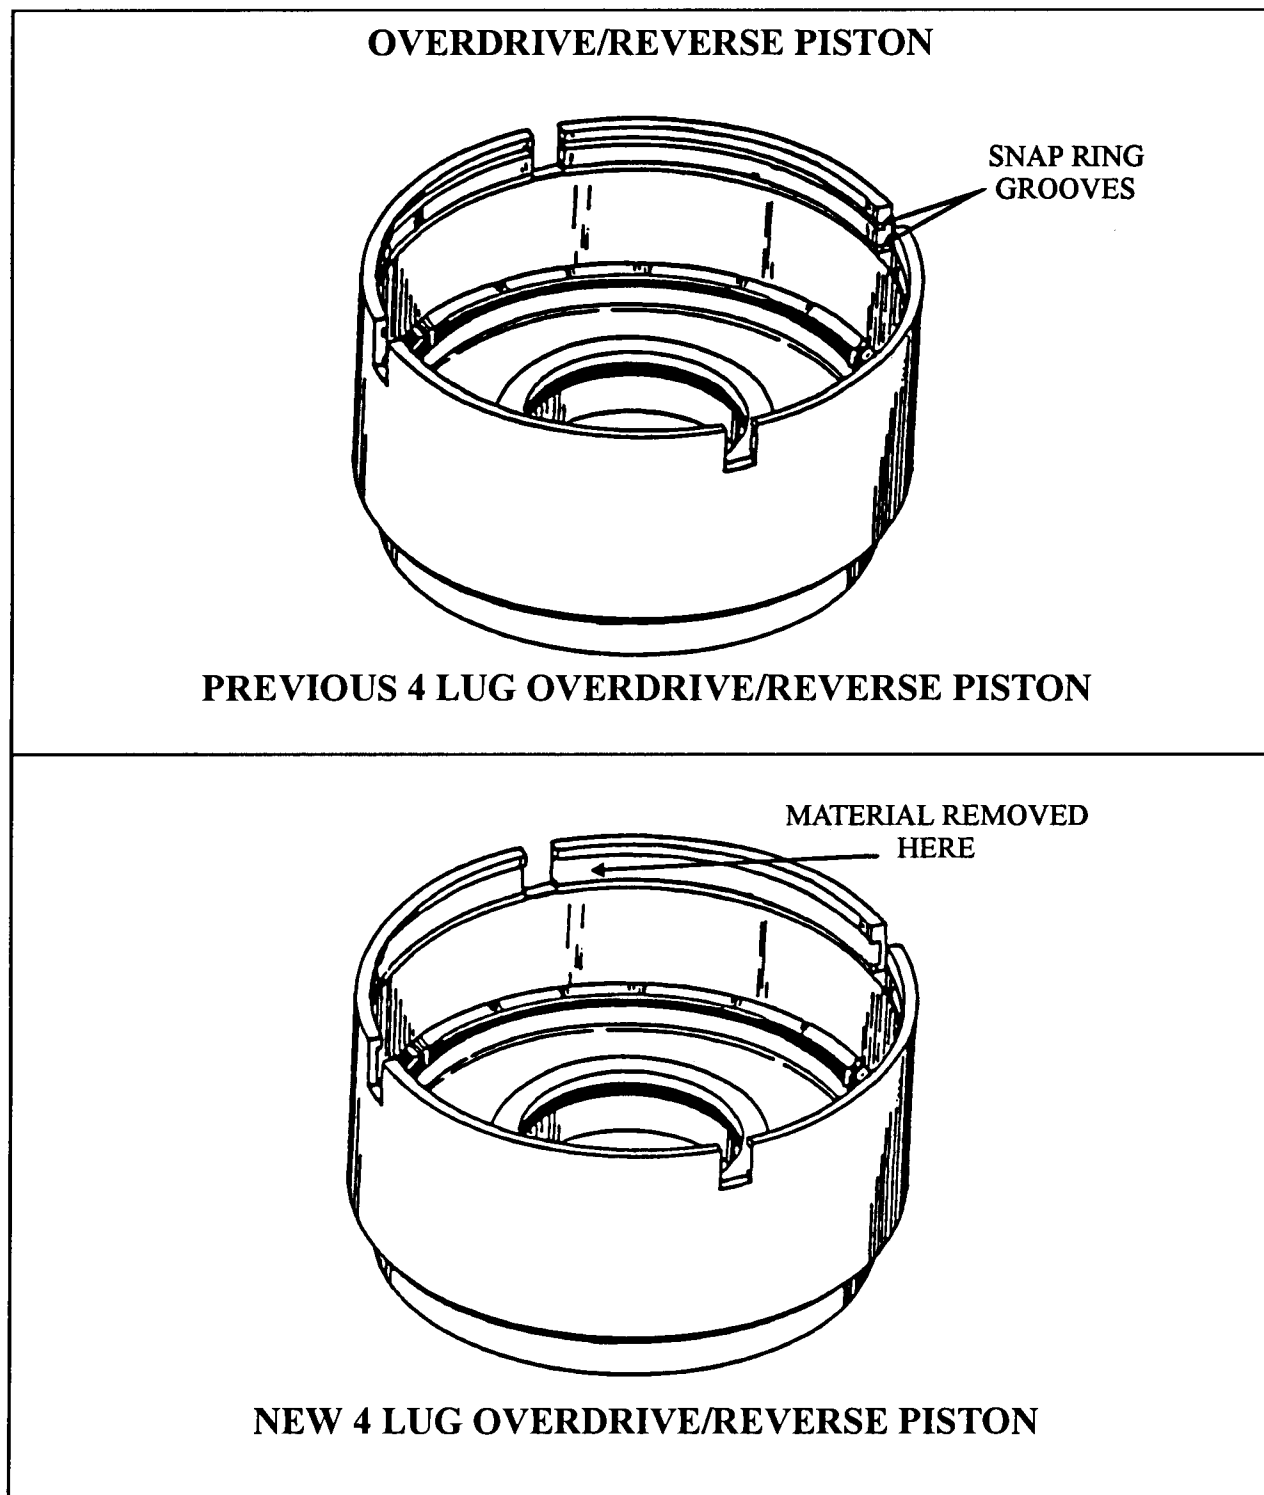

Figure 38
CHANGE: A 1991 running change was made to the overdrive/reverse piston, eliminating the material between the two snap ring grooves (See Figure 38).
REASON: To prevent the possibility of the overdrive/reverse reaction plate from binding in the overdrive/reverse drum, since it is also piloted on the outside diameter (See Figure 38).
- (1) **OVERDRIVE/REVERSE PISTON** - The drum material between the previous two snap ring grooves has been eliminated, as the Overdrive/Reverse Reaction Plate is also piloted on the outside diameter (See Figure 38). The snap ring and plate "Stack-Up" is **EXACTLY** the same as previous models with the new design level piston.